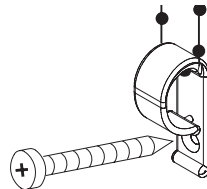

Figure 10
- ① Draper Bead Chain Clutch Operated shades that do not comply with WMCA/ANSI Standard A100.1-2012 are shipped with an unattached cord tension device (see Fig. 10). To use this P Clip, thread bead chain through the clip, then attach to wall, jamb or sill so that the bead chain is held taut enough that children cannot pull it away from the wall or fit their head into the loop. **See safety note on page 1.**